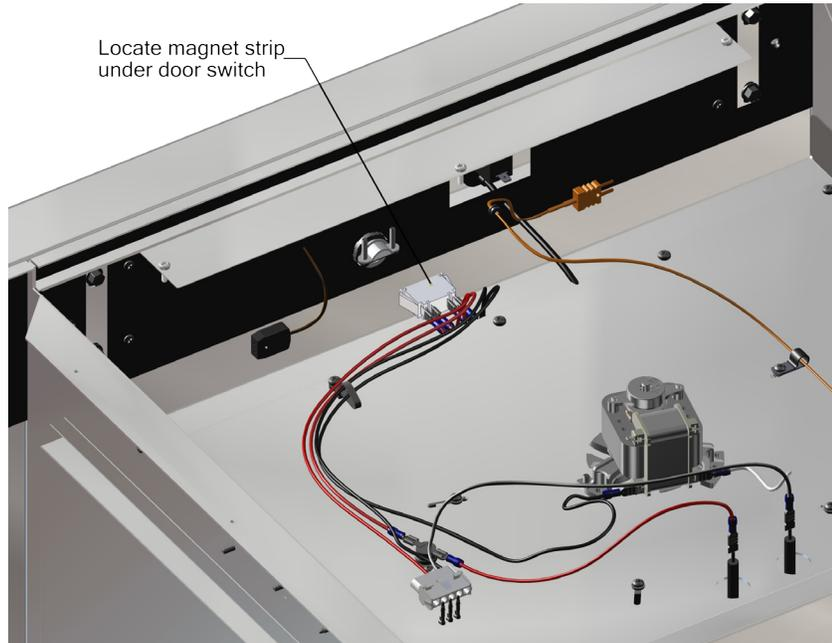

Fig. 22: Locate top magnet strip
28. Attach a magnet strip to the inside of the electrical component drawer where the old magnet had been. Make sure the magnet strip is positioned under the door switch (see Fig. 22).